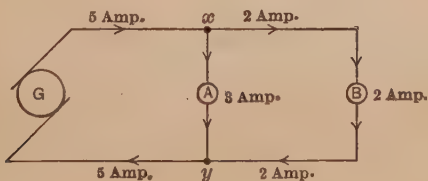
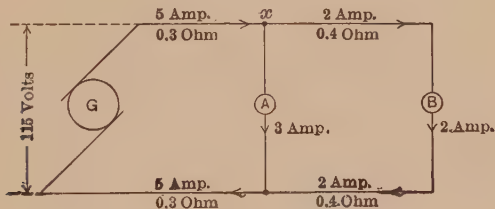

FIG. 61.
FIG. 67.
Suppose, as in Fig. 61, two lamps *A* and *B* are connected to a circuit in such a way that *A*, taking 3 amperes, is much nearer the generator than *B*, which takes 2 amperes. Then in the section of the line which lies between *A* and *B*, 2 amperes must flow in order to supply lamp *B* with
2 amperes. But the section of the line between the generator and *A* must carry enough current to supply both lamp *A* and lamp *B*. Thus this section must carry 5 amperes as in Fig. 61. When this current of 5 amperes in the line reaches the point (*x*) it divides, 3 amperes going down through the lamp *A* and the rest (2 amp.) going on
**24. Voltage Required for the Line. Line Drop.** Let us assume that a circuit, Fig. 67, is arranged as in Fig. 61, except that the resistance of the line wires and the generator voltage are introduced. The wires from the generator *G* to the lamp *A* each have a resistance of 0.3 ohm. The wires from the lamp *A* to the lamp *B* each have a resistance of 0.4 ohm.
**First Step. Current Distribution.** As we saw in Fig. 61 each of the wires from *G* to *A* has a current of 5 amp. flowing through it, and each of the wires from *A* to *B* has a current of 2 amp.